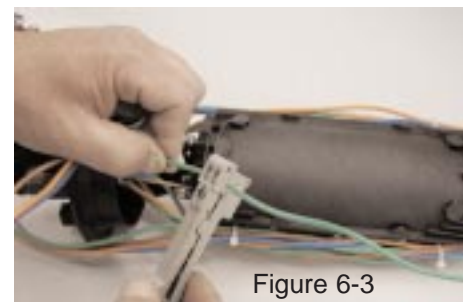

Figure 6-3
**6.03** Isolate one tube to be spliced, cut and remove outer tube to expose fibers. (Figures 6-3 & 6-4)